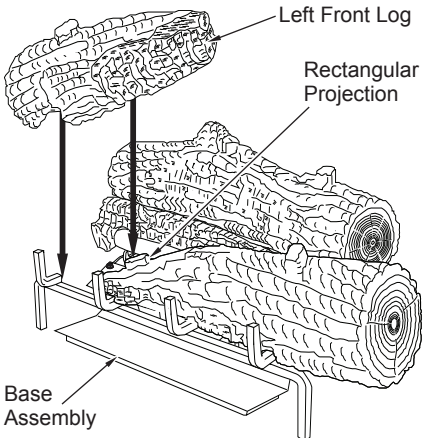

Figure 52 - Installing Left Front Log
4. Place the left front log onto the base and the right front log as shown in Figure 52. The left front log has a notch on the bottom that will line up with the projection on the right front log.